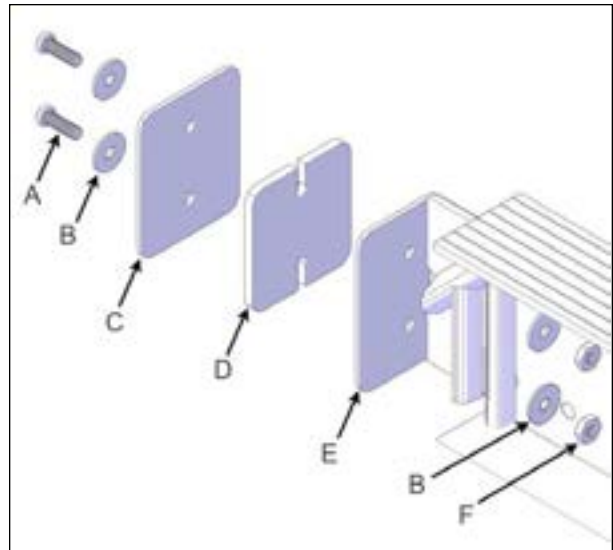

FIGURE 34: I-BEAM WITH THE SHORT I TO C CONNECTION PLATE INSTALLATION
1. Assemble the two I-beam short connection plates as shown in Figure 34.
2. Use #10-32 x 5/8" screws and #10-32 nuts. Insert the I to C spacer in between the I to C connection plate and the bracket. The screws and nuts can now be properly tightened see Figure 34.